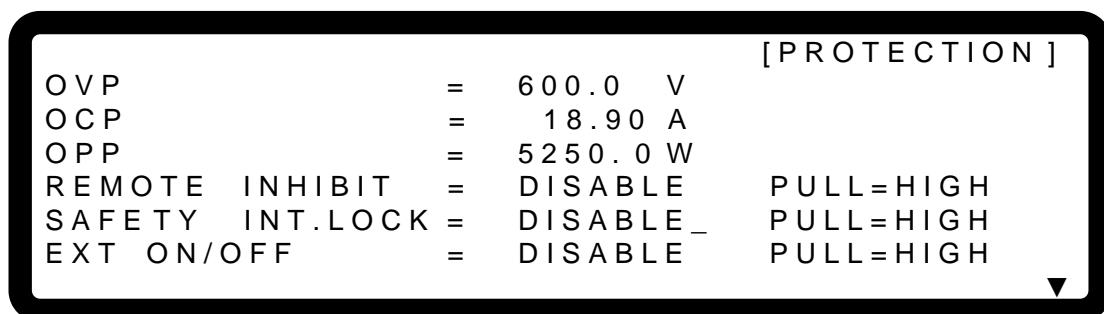

Figure 3-78
1. Use the “” “” keys to move the cursor to the column to be set as shown in Figure 3-78.